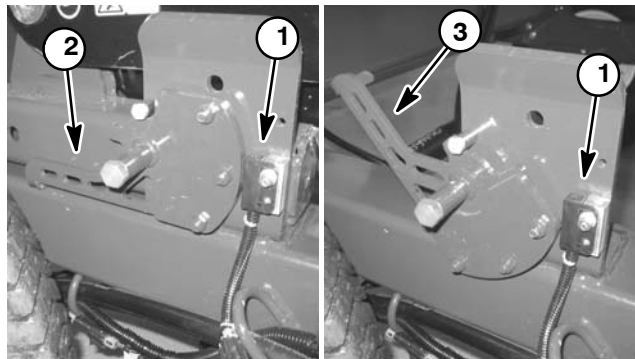

Figure 11
4. With the switch cam positioned near the target end of the switch (dump hopper lowered) (Fig. 11), there should be continuity across the switch terminals.
5. When the switch cam is positioned away from the target end of the switch (dump hopper raised) (Fig. 11), there should be no continuity across the switch terminals.